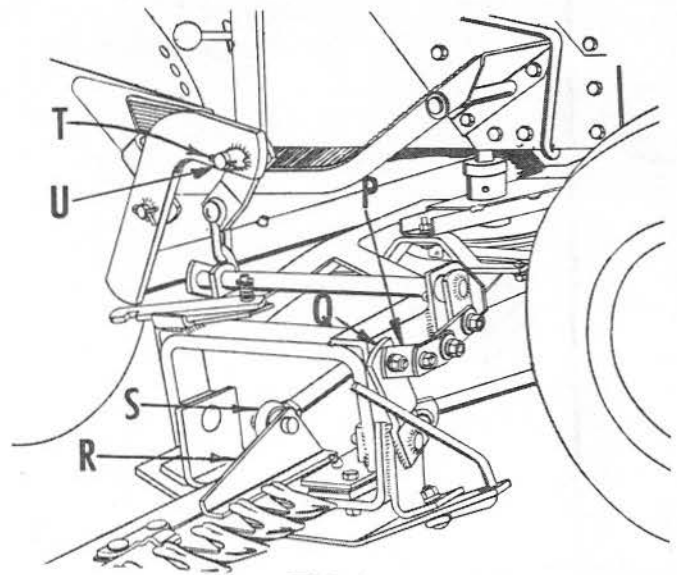

FIG. 6
7. Refer to Fig's. 5 and 6. Remove nut, lockwasher, bushing, flat washer and bolt from lift link (P). Assemble lift link (P), to cutter bar lift arm (Q), with items previously removed.
8. Remove huglock nut and outer washer from pin welded to knife head (R). Leave inner washer on pin. Position end of pitman assembly (S), over pin --it will be necessary to have knife assembly in extreme R.H. position. Now slide outer washer, previously removed, over pin and secure with huglock nut.
9. Remove cotter pin (T), from rivet (U), and remove rivet. Attach clevis to foot lift lever as shown in Fig. 6 with rivet and secure with cotter pin.